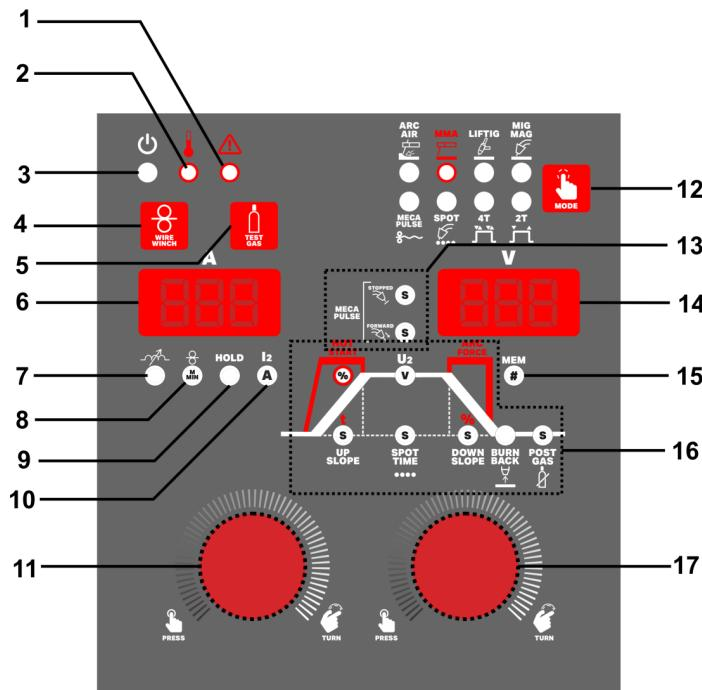
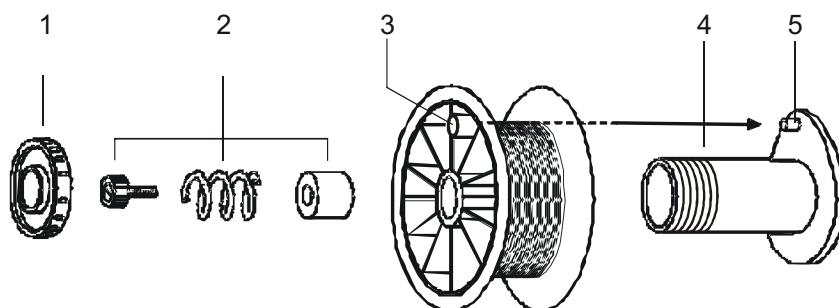

Fig. 1
Fig.2
- Unscrew the retaining nut (1 - Fig.2) to place the wire coil on the wire coil holder (4-fig.1). Confirm that the breaking system (2- Fig.2) is operative, with spindle (5- Fig.2) correctly inserted in the breaking hole (3- Fig.2). After the wire coil is installed, tighten the retaining nut.